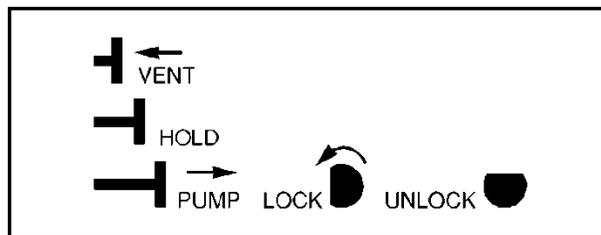

Figure 6 Valve Operation
3. Pull the valve handle out to the PUMP position and rotate the handle -turn counterclockwise (Figure 6). The gurgling sound should stop in a minute or so if there are no leaks in the vacuum line.
Before opening the door make sure that the high voltage to the detector has been turned off. Then after pressing the chamber valve to VENT the chamber, open the door and set the shelf height as desired. See Figure 6. Note that the scale on the left side of the plastic shelf holder can be used as a reference in positioning the holder. Insert the sample holder tray holding the sample.
When the sample is in place, close the door, pull the chamber valve to the PUMP position and lock it by rotating the handle -turn counter clockwise (Figure 6).
3. Carefully push the chamber valve to the VENT position and open the chamber door. Let the valve return to the HOLD position. See Figure 6. Vacuum in adjacent chambers should not change.
5. Pull the chamber valve handle to the PUMP position and lock it by rotating the handle 1/4-turn counterclockwise (Figure 6). The pressure in adjacent chambers will momentarily rise, then decrease as the pump removes the air introduced from the serviced chamber.
1. Remove the 7401's side covers and verify that jumper J5, Interlock Set Point, is set to the 500 $\mu\text{m Hg}$ position (position B). Refer to Figure 6 for the jumper's location.
4. Carefully push the chamber valve to the VENT position (Figure 6) and open the chamber door. Let the valve return to the HOLD position. Vacuum in adjacent chambers should not change.